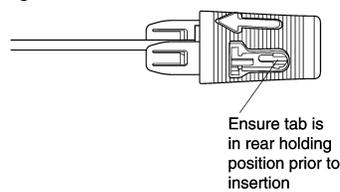
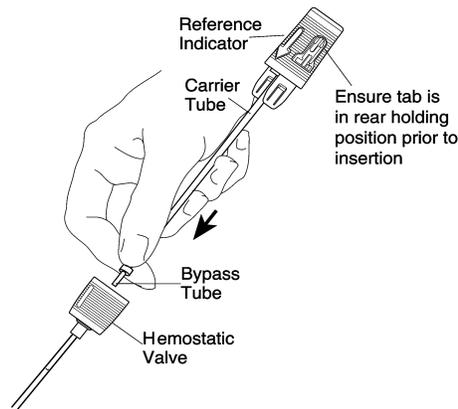

Fig. 6
Fig. 7
1. Confirm that the device sleeve has remained in the rear holding position, (Figure 6). Carefully grasp the Angio-Seal device at the bypass tube. Cradle the Angio-Seal carrier tube in the palm of the hand and, with the reference indicator facing up, slowly insert the bypass tube and carrier tube into the insertion sheath hemostatic valve (Figure 7).